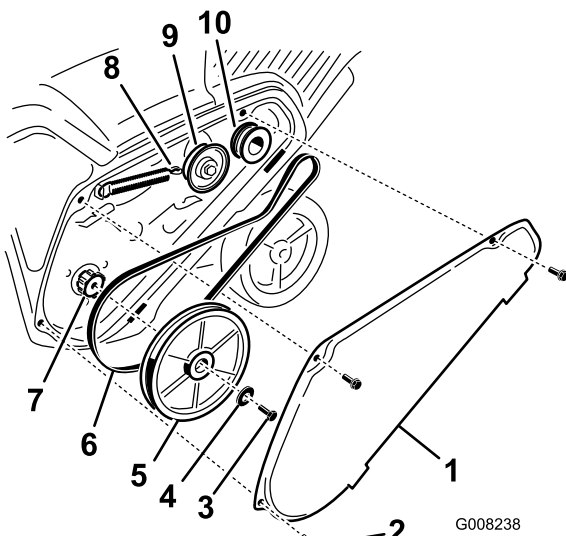

Figure 36
- Unhook the brake spring from the idler arm to release the belt tension (Figure 36).
- Remove the screw and curved washer that holds the rotor pulley (Figure 36).
- Remove the rotor pulley and the drive belt (Figure 36).
Note: Route the new drive belt first around the engine pulley, then the idler pulley, and finally around the loose rotor pulley positioned just above the rotor shaft (Figure 36).
- Install the rotor pulley onto the rotor shaft (Figure 36).
- Install the curved washer and the rotor pulley bolt and tighten them securely (Figure 36).